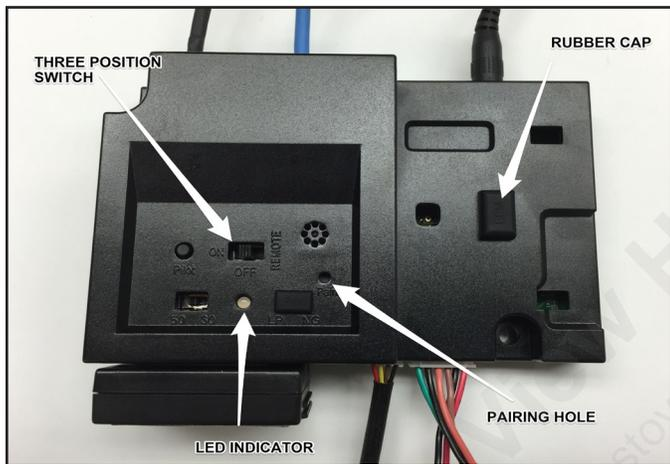

Figure 2 IFT-ECM
- Remove protective rubber cap from connector on the top of the IFT-ECM. See Figure 2.